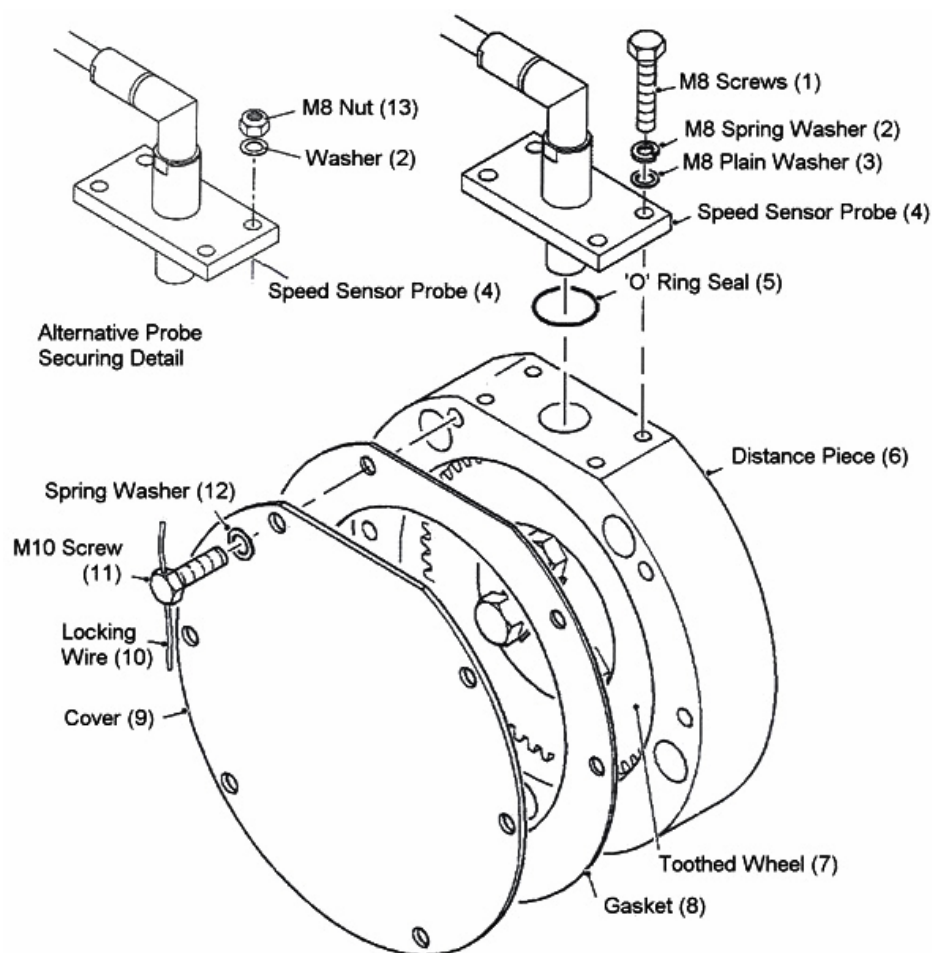

Figure 4: Westinghouse Speed Sensor - Assembly
3.2 Westinghouse Equipment see Figure 4.
NOTE 2: Two methods of securing the speed probe exist. See Figure 4 and Steps 3.2.1 and 3.2.2.